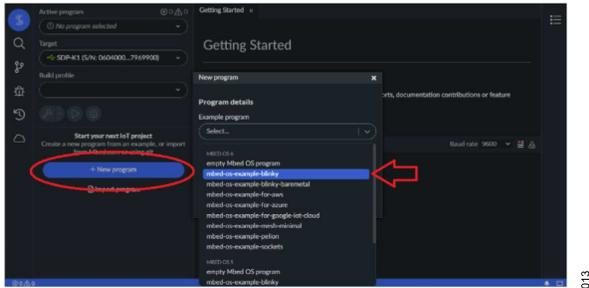

Figure 13. Create MBED Project
2. Create a new project based on the example project, **mbed-os-example-blinky**. Add the **New Program** name, AD74115, in this example (see **Figure 13**).